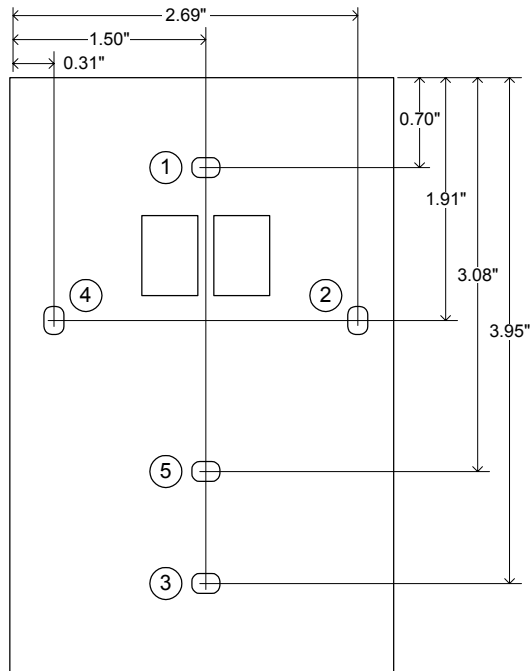

Figure 2 - Subbase Mounting Holes & Dimensions
- (1) Disconnect Unit power.
- (2) Unsnap the thermostat faceplate from the subbase. Remove the thermostat faceplate by placing the thumb in the center of the thermostat and pulling on the top edge of the plate.
- (3) Unscrew the two small screws that secure the thermostat to the subbase.
- (4) Disconnect the yellow S-LK wires from the S-LK terminals of the unit controller and from terminals 1 and 2 of the subbase.
- (5) Remove the two screws that hold the subbase to the controller mounting plate.
- (6) Move the subbase to the mounting location and feed the sensor link (S-LK) and LON wires (if used) through the back of the subbase.
- (7) Mount the subbase. The wiring terminals should be at the top end of the subbase. For direct wall-mount, 2x4 box mount, and surface mount boxes, use mounting holes 1 and 3. For 1/4 DIN boxes, uses mounting holes 1 and 2. See Figure 2. Use the appropriate flathead screws, such as 6-32 x 5/8", to attach the subbase to the box or wall. When attaching to directly to drywall, use anchors as necessary.
- (8) The sensor link wires (S-LK or U-link) connect to subbase terminals 1 and 2; these wires are not polarity sensitive. If used, the LON wires connect subbase terminals 3 and 4; these wires are not polarity sensitive. Connect the S-LK wires to the S-LK terminals of the controller. If used, connect the LON wires to the LON terminals of the controller.
- (9) Push the excess wire back through the subbase and insulate the opening to minimize air drafts from an unconditioned space.
- (10) Hold the t'stat with the display out and oriented towards the top of the t'stat. Set the t'stat circuit board so that the bottom edge is captured by the mounting hooks near the bottom of the subbase.
- (11) Secure the t'stat to the subbase by tightening the two small screws near the top, outer edge of the t'stat.
- (12) Snap the faceplate back onto the t'stat. Snap in the bottom edge first and then the top edge.
- (13) If using the t'stat to detect space temperature, disconnect the unit mounted room air temperature sensor (RAT) from the controller (terminals UI1 and COM).
- (14) Apply unit power and verify t'stat operation.